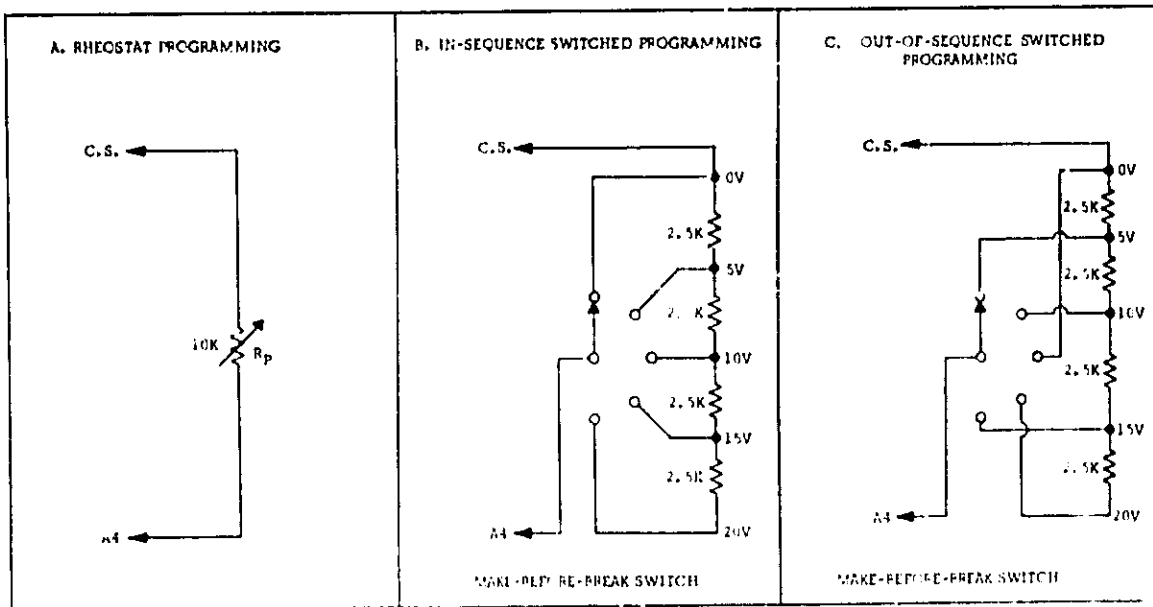
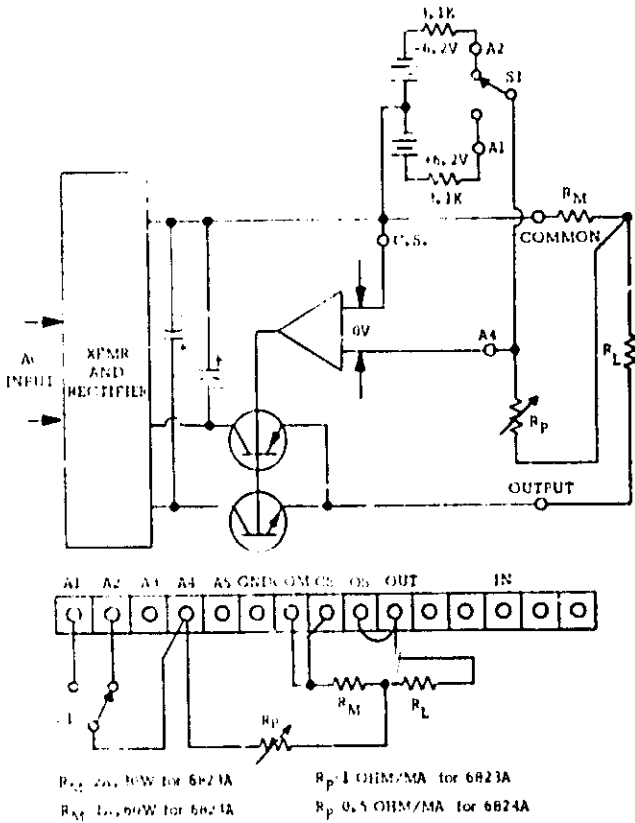

Figure 3-10. Switched Resistor Substitutes
Figure 3-18. Remote Resistance Programming, Bipolar Output (CC)
3-45 If it is desired to achieve accurate programming reproducibility, or if it is necessary to repeatedly set the power supply output to specific voltage values, either of the substitute arrangements suggested by Figure 3-10(B) and 3-10(C) may be employed in place of the rheostat R_p . Suppose, for example, it is decided to set the power supply over the span from 0-20V. If continuous adjustment is required, the best choice would be a 10K rheostat (since the programming coefficient is 500 ohms/volt). But if specific tests must be made at 0, 5, 10, 15, and 20V, the arrangement shown in Figure 3-10(B) should be employed; using a make-before-break switch. If the same voltage values are desired, but not in ascending or descending sequence, the terminals from the resistor string can be connected to the switch in any desired sequence, as suggested by Figure 3-10(C).
3-74 Figure 3-18 shows one method of controlling the output of the PS/A as a remote programmed Constant Current supply. Switch S1 causes the output current to be either positive or negative. If it is desired to achieve only a positive or only a negative output current (unipolar output), then S1 must be eliminated. Terminal A4 is strapped directly to A2 for a positive output, or directly to A1 for a negative output.
3-75 The front panel FINE/ZERO control permits the output current to be adjusted to zero when Rp is set to zero, while the slope of the programming coefficient is adjusted by means of R38 (positive output) and R39 (negative output). Either of the switched resistance schemes of Figure 3-10 may be substituted for a variable Rp in this or any other Constant Current diagrams which follow. The advantage of the circuit of Figure 3-18 is that the output current is a linear function of the programming resistance; the disadvantage is that a switch must be used in order to accomplish polarity reversing.